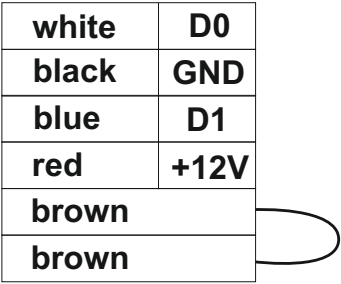

Figure 2. The wires purpose.
- Connect the wires to the reader, per Figures 2 and 3. When device is correctly powered, the red LED will light up.